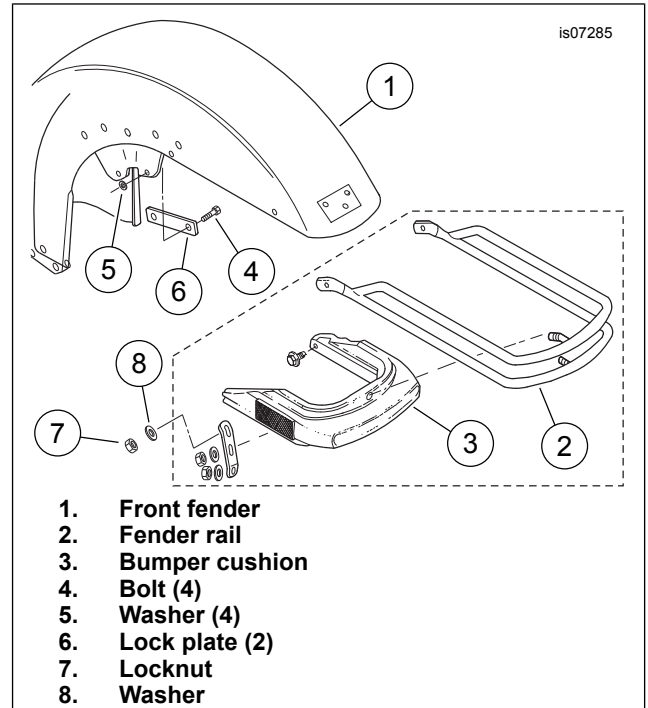

Figure 1. Rail Removal (FLT, FLHT)
See Figure 1. On **FLT and FLHT models**, the original equipment (OE) fender rail (2) and bumper cushion (3) assembly must be removed. Retain the fasteners (4, 5) to mount the fender rail from **this** kit.
1. Reach under the front edge of the fender (1) and remove the locknut (7) and washer (8) holding the fender rail (2) and bumper cushion (3) assembly.
2. **ALL Models:** Bend the forward corner of the lock plate (6) away from the flat on the front bolt head (4) on each side of the fender.
3. Loosen and remove the two front hex head bolts (4) that attach the fender (and fender rail on FLT and FLHT models) to the fender mount on the forks. When the bolts are removed, the washers (5) will fall out.